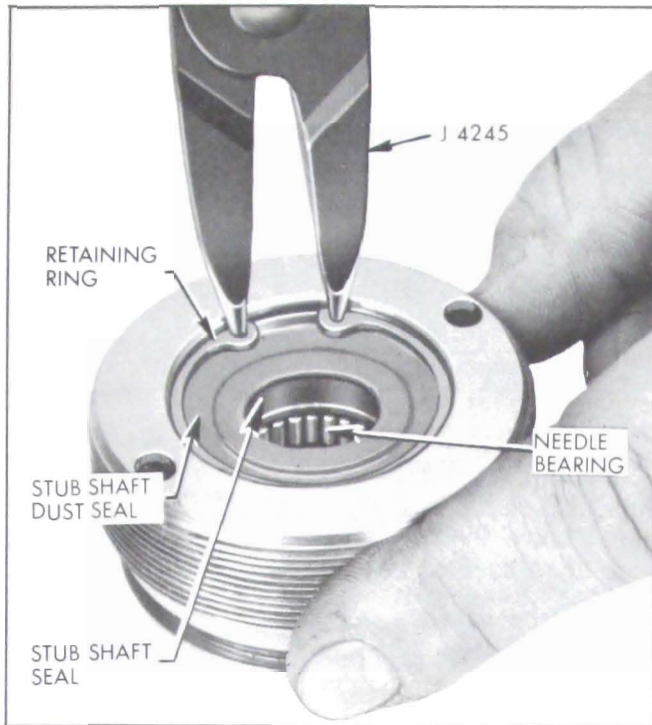

Figure 8-32—Removing Stub Shaft Seal Retaining Ring
2. Remove stub shaft seal retaining ring using No. 3 Truarc Pliers J-4245 and remove and discard dust seal. See Figure 8-32.